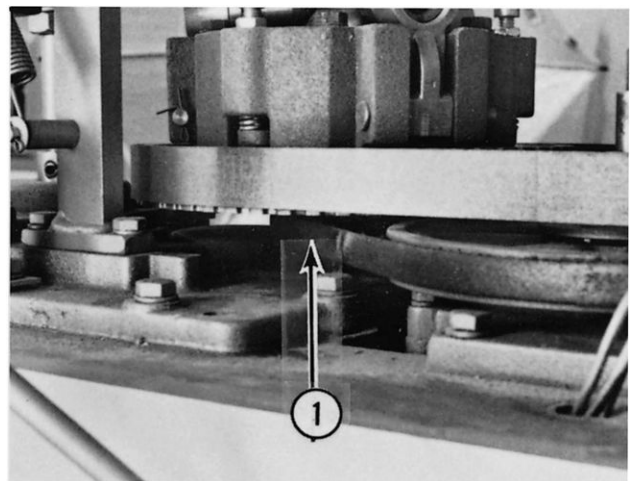

Fig 7-4
- (1) The "V" belt should have 1/2" deflection (1, Fig. 7-4) between the drive pulley and the power bowl lift pulley.